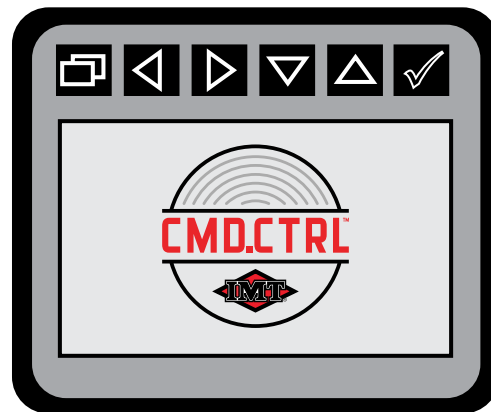

Figure 9
**NOTE:** The capacity placard shown in Figure 9 is an example only. The capacities are not intended for use on any particular telescopic crane.